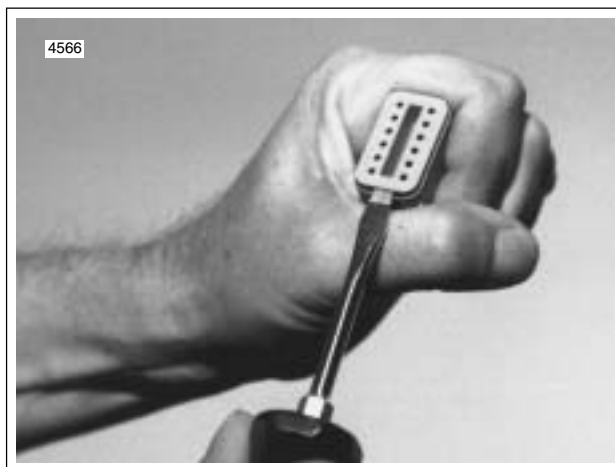

Figure 8-17. Remove Secondary Locking Wedge
1. See Figure 8-17. Remove the secondary locking wedge. Insert the blade of a small screwdriver between the socket housing and locking wedge inline with the groove (inline with the pin holes if the groove is absent). Turn the screwdriver 90 degrees to pop the wedge up.